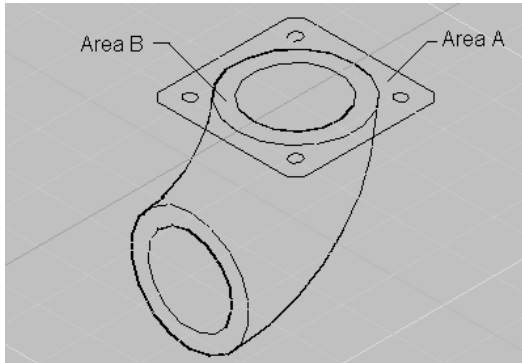

Figure 26-121 Two areas to presspull
8. Choose **Home > Modeling > Press/Pull** from the **Ribbon** and then click inside the rectangular area at the location shown as Area A in Figure 26-121. Next, move the mouse in the upward direction, enter the value **5** at the Command prompt, and press ENTER.
9. Again, choose the **Press/Pull** button and pull the area shown as Area B in Figure 26-121